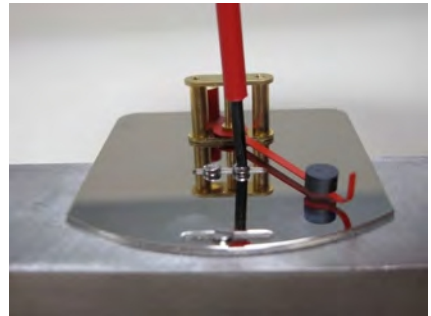

Fig. 40
5. ➤ Loosen fixing screws from the display base plate (Fig. 40) then remove the display base plate from the device.